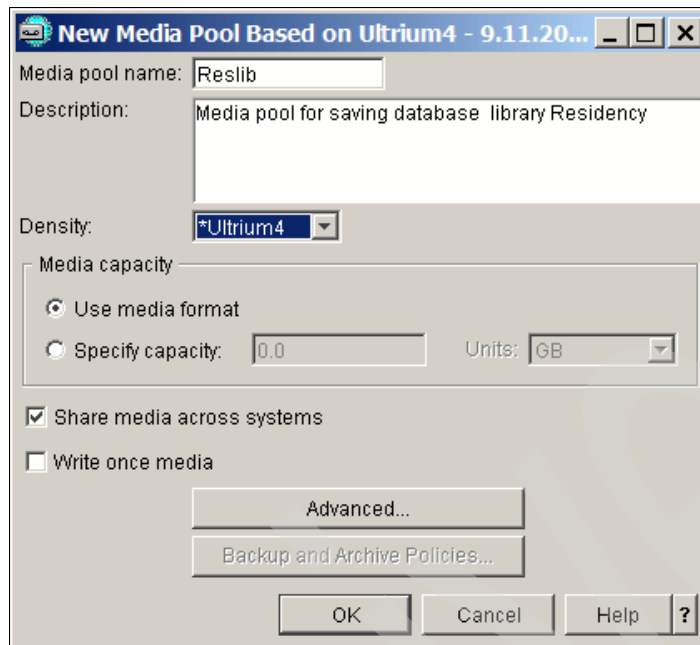

Figure 6-3 New Media pool wizard
- This presents the wizard, *New Media Pool Based on...* In the wizard, specify the name, description, and cartridge density of the new media pool, as shown in Figure 6-3. Click **OK**.